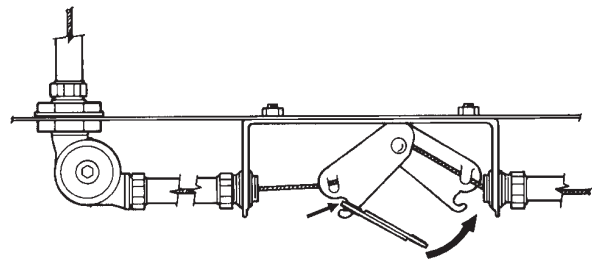

FIGURE 39
8. Hook the fusible link on the ANSUL AUTOMAN release side of the hook assembly, then pull the fusible link to the opposite side and complete the hookup as shown in Figures 39 and 40. The top of the hook assembly must be inside the bracket stiffeners. The hook assembly with the ANSUL fusible link in place must be located toward the terminal detector side of the bracket.